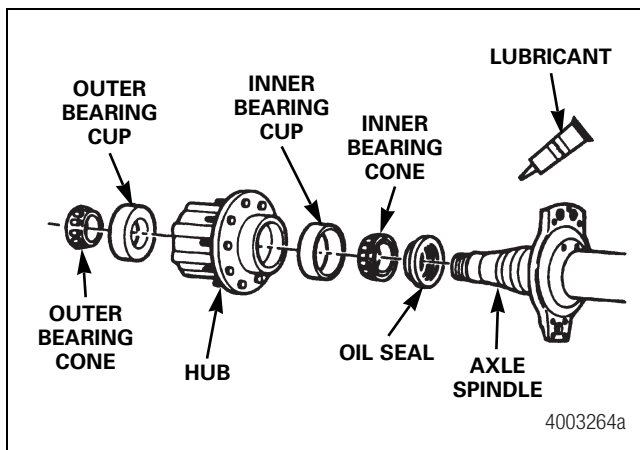

Figure 9.1
- With conventional wheel ends, the hub, seal, lubricant and bearings are installed as separate components. Figure 9.1.